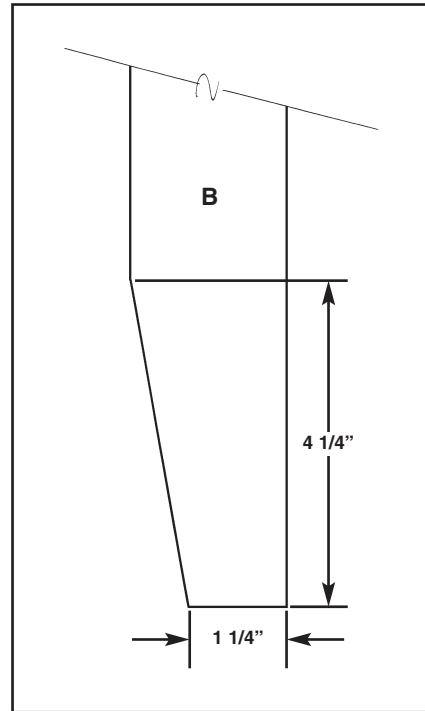

Figure 1
1. Cut legs on boards (B). Refer to Figure 1 and Isometric.